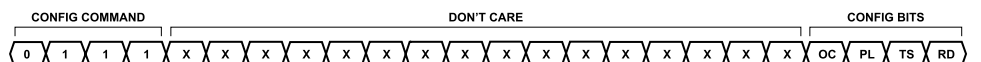

Figure 30. CONFIG Command Syntax: OC, PL, TS, and RD
The **CONFIG** command has four arguments—open circuit detection disable (OC), power limit protection disable (PL), thermal shutdown disable (TS), and reference disable (RD) (see Figure 30).
To use the internal reference, the REFCOMP pin should be left floating with no DC path to GND. In addition, the RD bit in the CONFIG register must have a value of zero. This value is reset to zero at power-up, or it can be reset using the **CONFIG** command, 0111b. Figure 30 shows the command syntax.